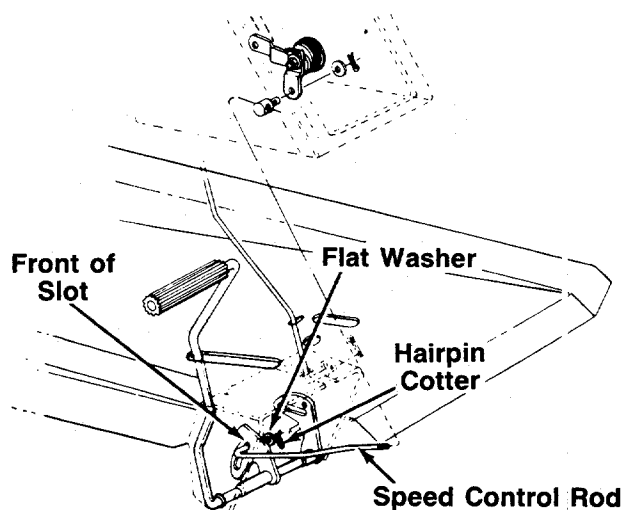

FIGURE 23.
7. Disconnect the speed control rod by removing the hairpin cotter and flat washer. See figure 23.
9. Adjust the rod by threading it in or out of the ferule until it is all the way to the front of the slot as shown in figure 23.